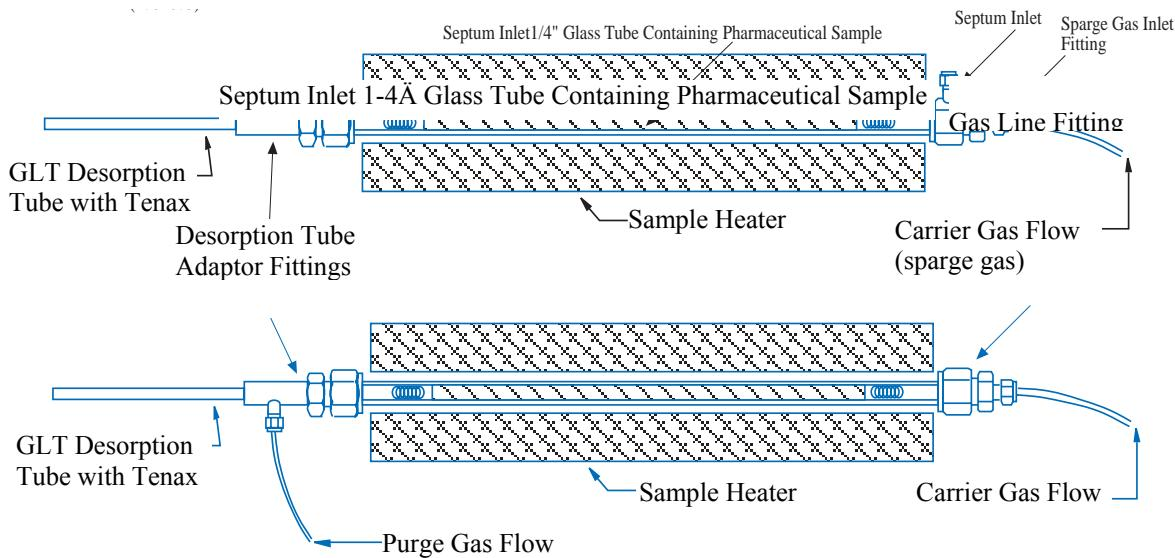
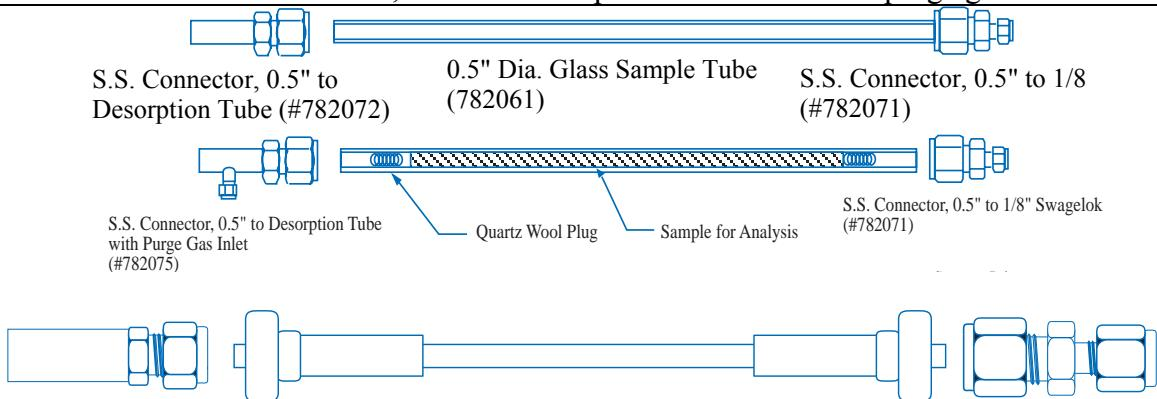

Figure 10-6 – Cross section of Sample Collection Oven for the collection of thermally sparged samples.
Figure 10-7 – Sample tube with connectors
The Sample Collection Oven permits the analysis of trace components in larger sample sizes than could be analyzed by direct thermal desorption in the TD-5 Short Path Thermal Desorption System. Samples to be analyzed are placed inside glass tubes and held in place by glass wool plugs. The system is designed to sample from 0.5" diameter tubes, and also from 0.25" diameter tubes with optional adaptors. Sample tubes are each 14" long. Samples up to 20 grams can be sampled in the 0.5" diameter tubes. When ready for sample collecting, the long tube containing the sample is placed in the Sample Collection Oven, fitted at one end with a supply of carrier gas to flush out the residues, and fitted at the opposite end with an adaptor fitting and a preconditioned desorption tube with adsorbent resin (Figure 10-6). The Oven is set for the predetermined temperature and the desired components are collected onto the desorption tubes. Oven temperatures can range from room temperature up to 250°C. The temperature used, as well as the time of sampling, depends on the nature of the samples being analyzed and the requirements of the analyst. By providing gas flow from a carrier gas such as Nitrogen or Helium through the heated sample tubes while sampling, the volatile and semi-volatile organics will be purged from the sample and will be trapped by the adsorbent in the desorption tube.
3. On front of Collection Oven connect quick disconnect fitting to 1/8" flexible transfer line via S.S. Connector, 0.5" to 1/8" Swagelok to provide gas flow through sample tube (Figure 10-6 and Figure 10-7).
4. At the opposite end of the sample tube connect a preconditioned desorption tube with adsorbent resin to the sample tube via a S.S. Connector, 0.5" Swagelok to desorption tube (Figure 10-6 and Figure 10-7). Refer to Conditioning Oven Manual for conditioning desorption tubes.